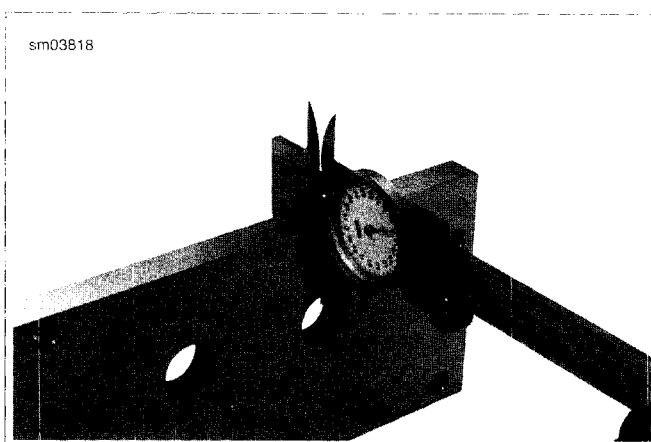

Figure 3-134. Measure Thickness of Support Plate
- a. See Figure 3-134. Using a dial caliper, measure thickness of support plate.